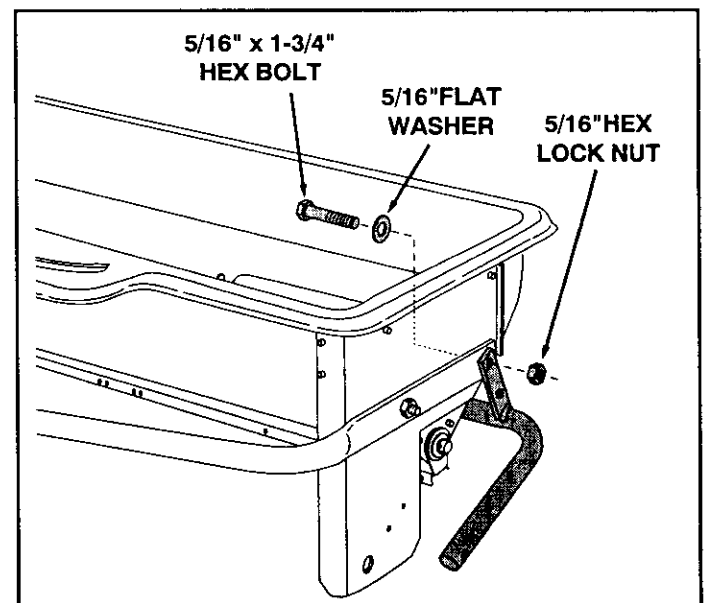

FIGURE 3
- On the left side, insert a 5/16" x 1-3/4" hex bolt through a 5/16" flat washer and then through the rear hole in the hopper and the hitch tube. Assemble the transport tube onto the bolt and secure it with a 5/16" hex lock nut. **Do not tighten yet.** See figure 3.